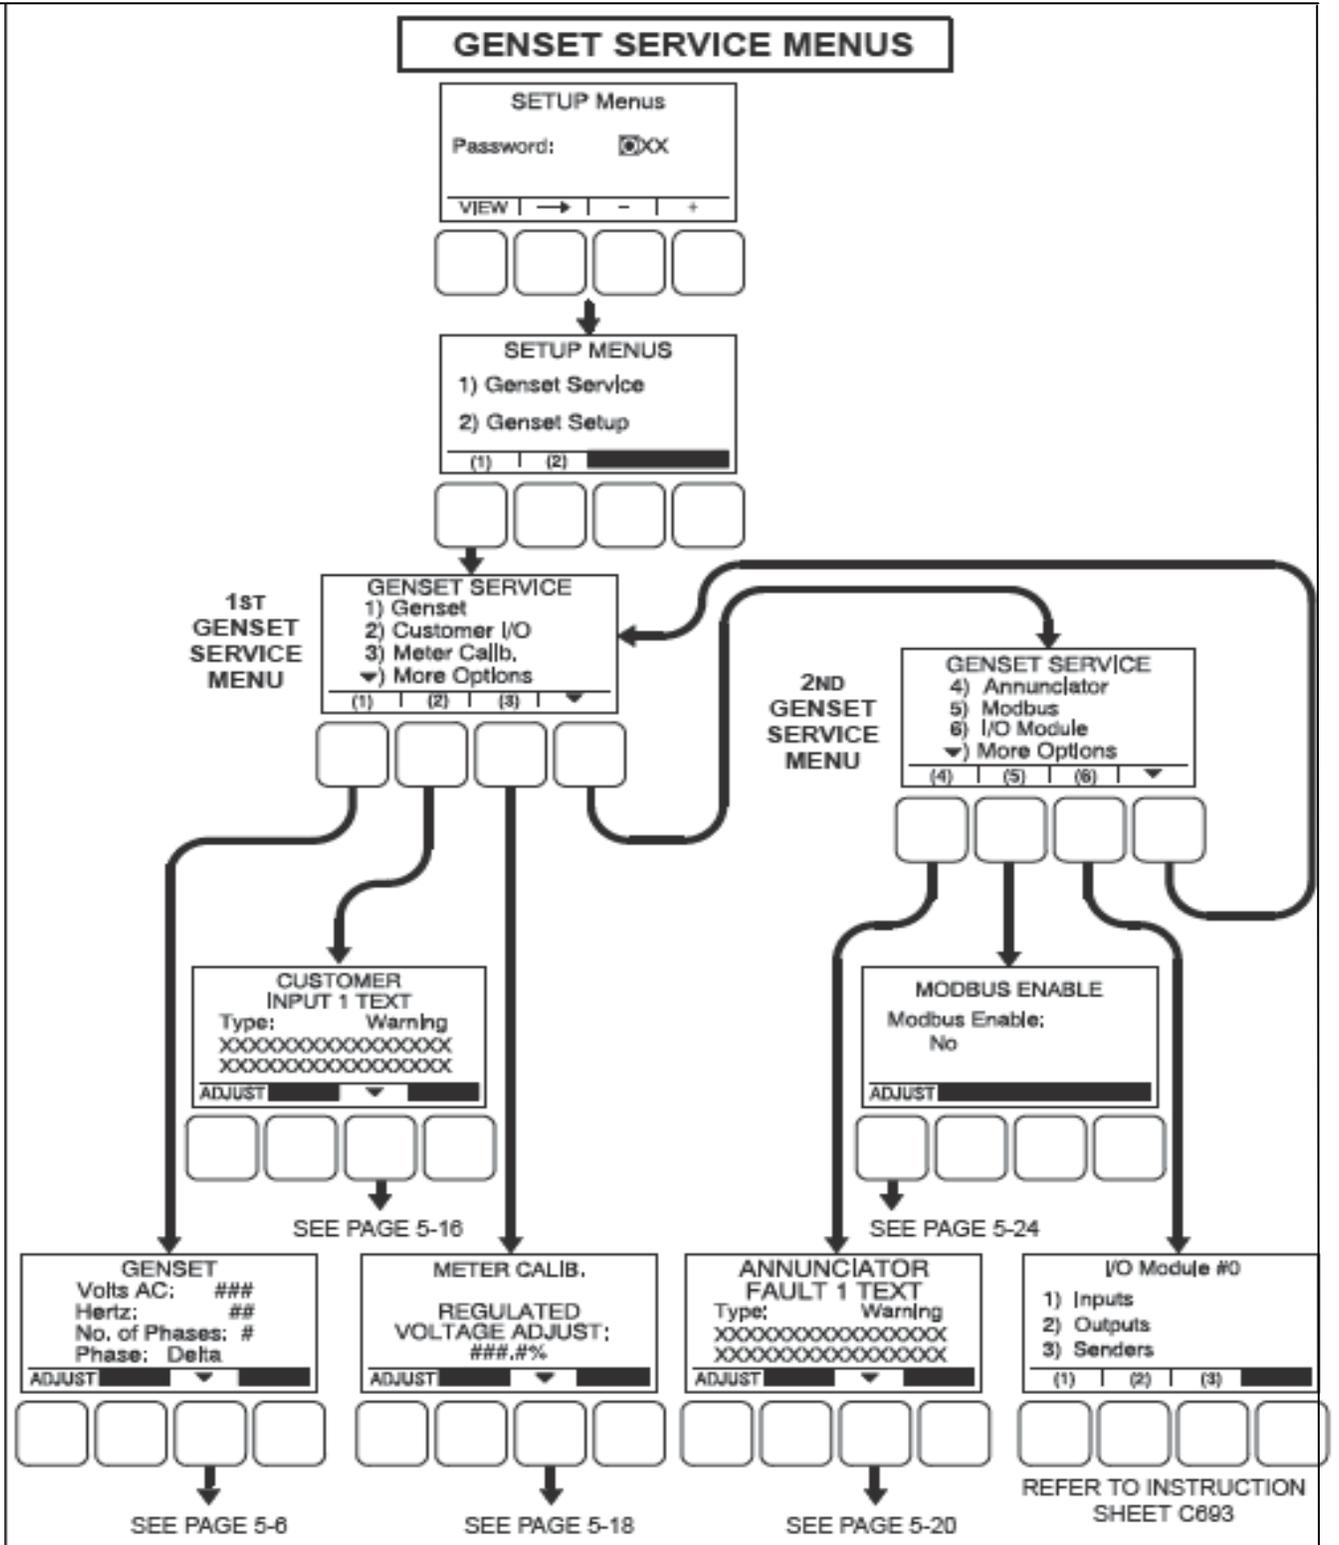

FIGURE 5-3. GENSET SERVICE MENUS
Pressing the VIEW button in the Setup “Password” menu, will display the 1st Genset Service menu(see Figure 5-3). Note that when viewing the Gen-set Service menus, the ADJUST button will not be displayed as shown in Figure 5-3.After entering the password from the Setup “Pass-word” menu, a second Setup menu is displayed that provides access to the following two categories of genset adjust menus. •
The Genset Service menus are available by pressing the **(1)** button in the Setup menu (see Figure 5-3). This section covers Genset Service menus only. For information on Genset Setup menus, go to page 5-27. If a password is entered, the settings in the Genset Service menus can be adjusted. However, if a password is not entered, these menus can still be viewed.
Figure 5-3 is a block representation of the two Gen-set Service menus that are available from the Setup menu after the correct password has been entered. The Genset Service menus provide access to the following categories. The first Genset Service Menu provides access to the following menus:
Adjusting the Genset Service submenus is restricted to service personnel and a password must be entered to modify these menus. When the Password menu is displayed, the first numeric character (0) is highlighted (see Figure 5-3).
The Genset Service submenus are available by pressing the **(1)** button on the first Genset Service menu (see Figure 5-3).